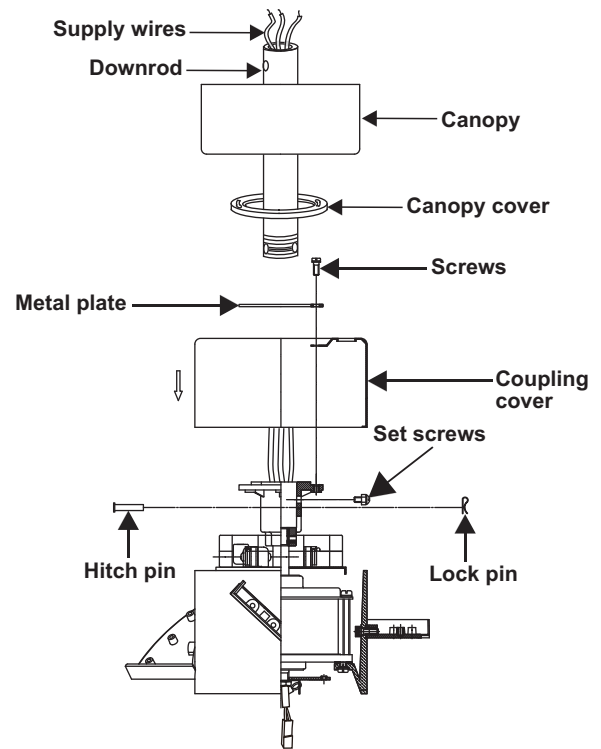

Figure 8
5. Loosen the two set screws and remove the hitch Pin and lock pin from the central shaft/top coupling of the motor assembly. Doing so will allow the down rod to enter the central shaft. (Fig. 8)
6. Carefully feed the fan wires through the down rod and pull them taut. Thread the down rod into the central shaft and tighten with the lock pin and hitch pin previously removed, re-tighten the set screws against the downrod. (Fig. 8)
7. Replace the metal plate and coupling cover to the fan motor by using the screws previously removed. (Fig. 8)
8. Slide canopy cover (with decorative side oriented to floor) and canopy (with wide end oriented to ceiling) onto down rod. Carefully reinstall hanger ball onto rod. Be sure that cross pin is in correct position, the set screw on hanger ball is tight and that the wires are not twisted. (Fig. 8)